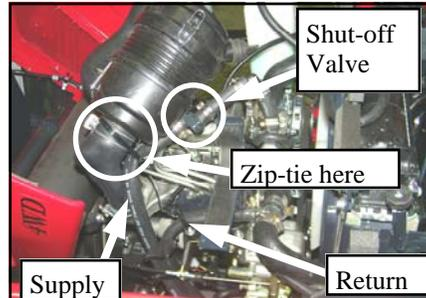

Fig. E-1 Supply & Return Routing
- E. Using hose clamps and a short length of hose (3.25"), attach the nipple to a 90 degree elbow. Attach the supply line to the other end of the elbow and route the heater hose, as shown in Fig E-1, making sure it is kept a safe distance from the muffler. Connect the hose to the heater in the same manner as the return hose. Splice into the heater supply line and install the in-line shut-off valve. Secure hoses with the hose clamps and wire ties. **NOTE:** The in-line shut-off valve quickly converts the heater into a summer time blower by preventing hot water from flowing to the heater core.